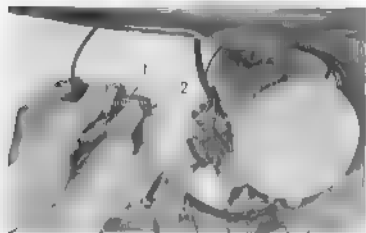

Fig. 4.4. Removing throttle cable from carburetor
C 90 (Fig. 4.4)	Pressed sheet steel
3. Disconnect the throttle cable at the throttle valve 1 by unscrewing the carburetor cap, pulling out the throttle valve and then unhooking the throttle cable 2, (Fig. 4.4)